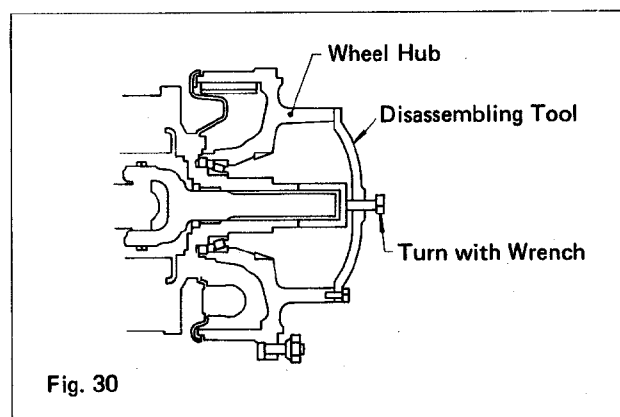

Fig. 30
- 2) Since bearing inner race was removed during ring hholder disassembly as described earlier, the hub should come off easily. If not, follow the procedure as shown in Fig. 30.